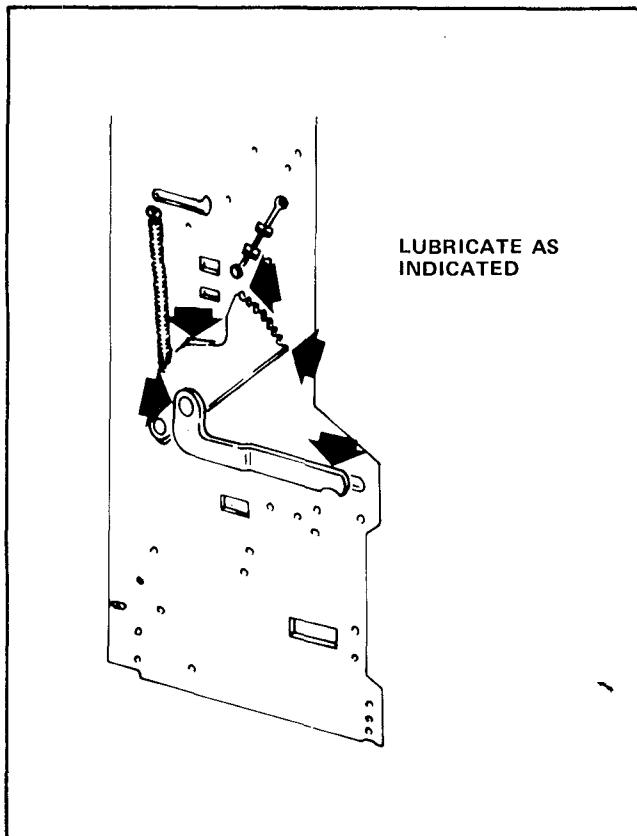

FIGURE 8-2
2. Lubricate the Rack Plate Assembly on the inside of the Right Sidewall with Lubriplate. See Figure 8-2.